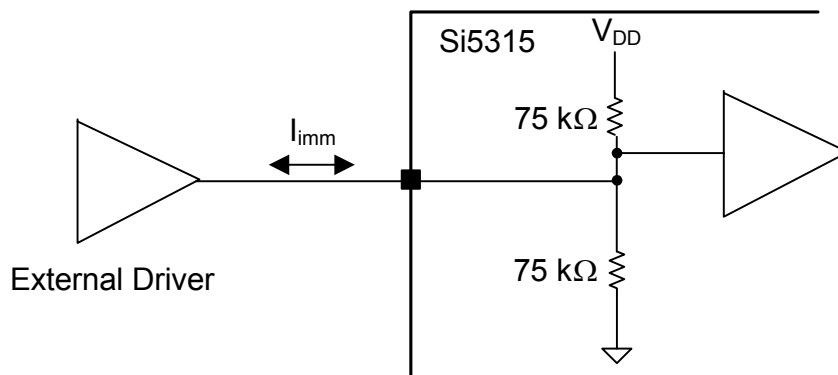

Figure 3. Three-Level Input Pins
3. This is the amount of leakage that the 3L inputs can tolerate from an external driver. See Figure 3 on page 11.